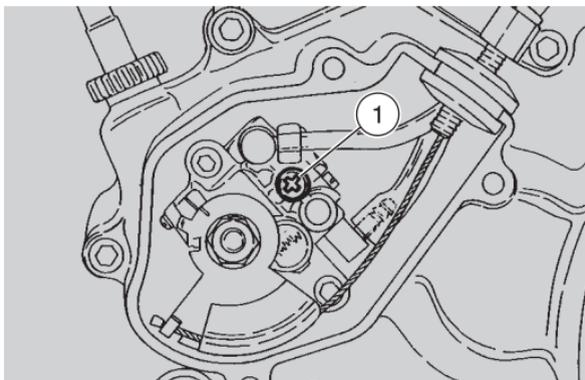

Fig. 47
- remove the cross-slotted screw (1-Fig. 47) positioned on the oil mixer pump and wait until the oil has flowed out of the hole;
- when the outflowing oil doesn't present air bubbles any more, put the screw back and tighten it (1-Fig. 47).